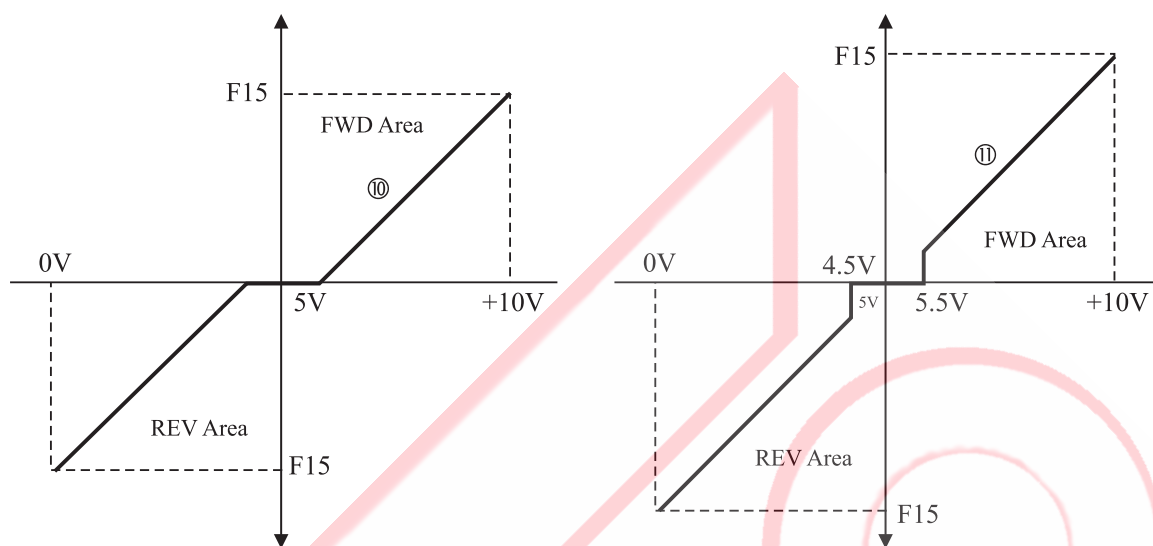

Fig. 3
* Refer to the Description Given Below According to the Chart Given Above Fig. 3 :